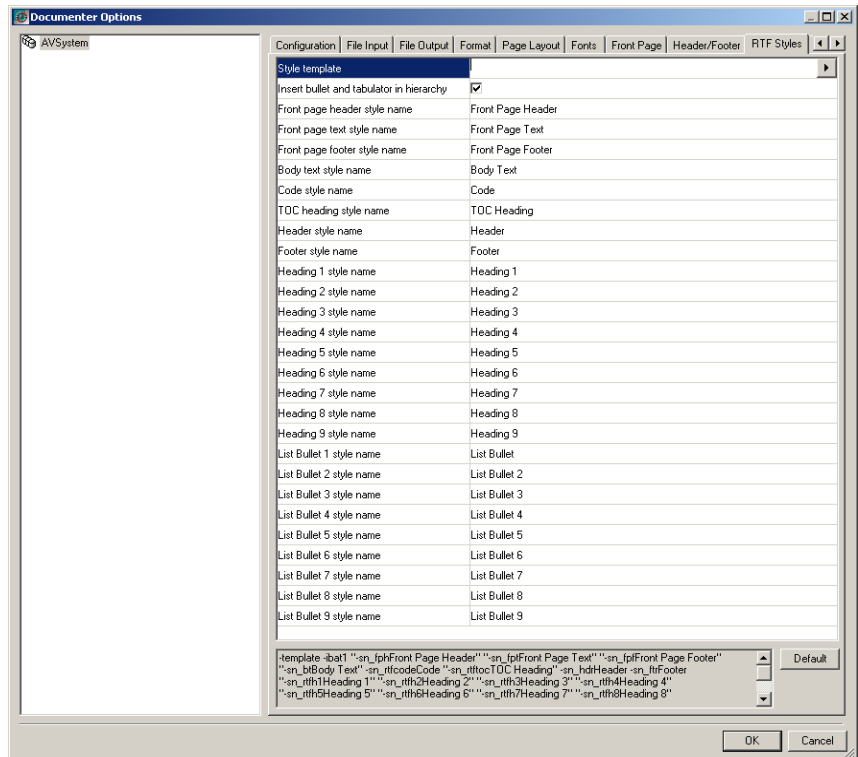

Figure 193: Documenter Options dialog box, RTF Styles tab
- 1 Open the Documenter Options dialog box (as described in *General*, page 261), and click the RTF Styles tab. See *Figure 193*, page 271.